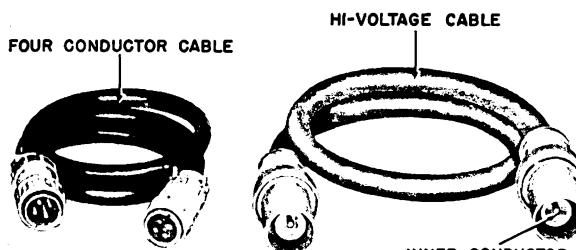

Figure 11. Cables.
a. *General.* The cables in the AN/TPS-3 equipment may be regarded as the life lines of the equipment. The condition of the cabling must be closely observed. See figures 11 and 12.
(1) The cables are to be inspected for cracked or deteriorated insulation, frayed or cut insulation at the connections or support points, and improper placement which may subject the cables or connections to undue strain. Note the support of the cable. Make sure the cable is not kinked. Do not make sharp bends in the high-voltage cables when they are cold below zero, °F.). Where grounding clamps are employed, it is important to keep these clean and tight. If one or more of these grounded points is open or makes poor electrical contact, it may interfere with the operation of the equipment.
(2) It is recommended that the following check on the cabling system be made periodically. Clamps or brackets that hold or support cables should be inspected for tightness. If they are firm and solid and cannot be moved, no further attention is required. Also inspect the condition of conductors at the terminals.